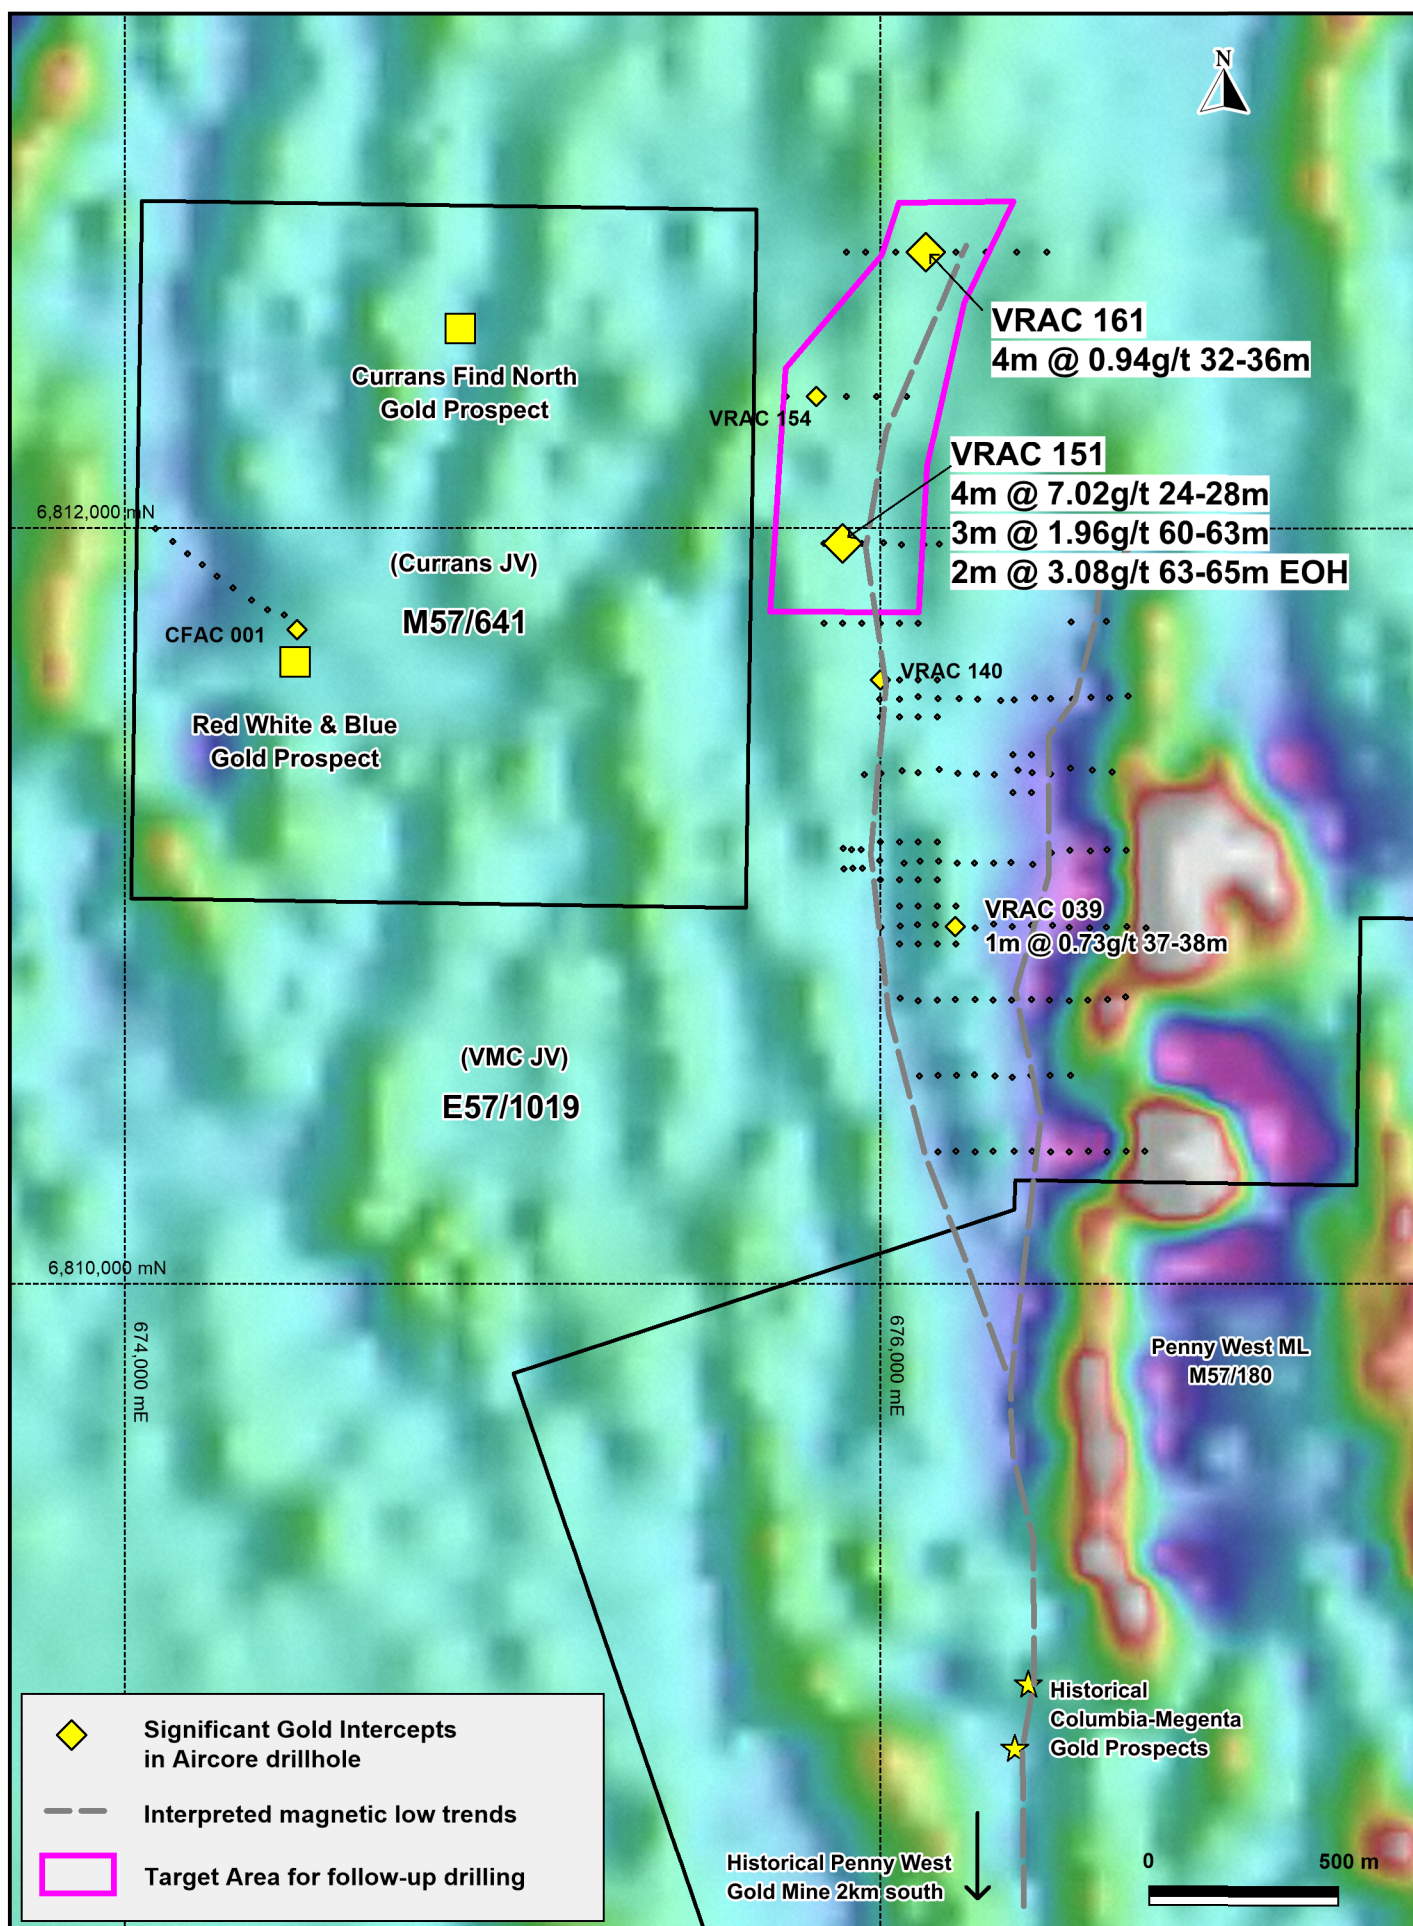

Figure 2. Location of Aircore drillholes shown on regional aeromagnetic image
- The **strong gold mineralization in deeply weathered mafic rocks in VRAC151** (Figure 2) is **open at depth and along strike**; it is located along a north-northwest trend close to the Youanmi Shear Zone and c. 5km north of the historical Penny West Gold Mine.